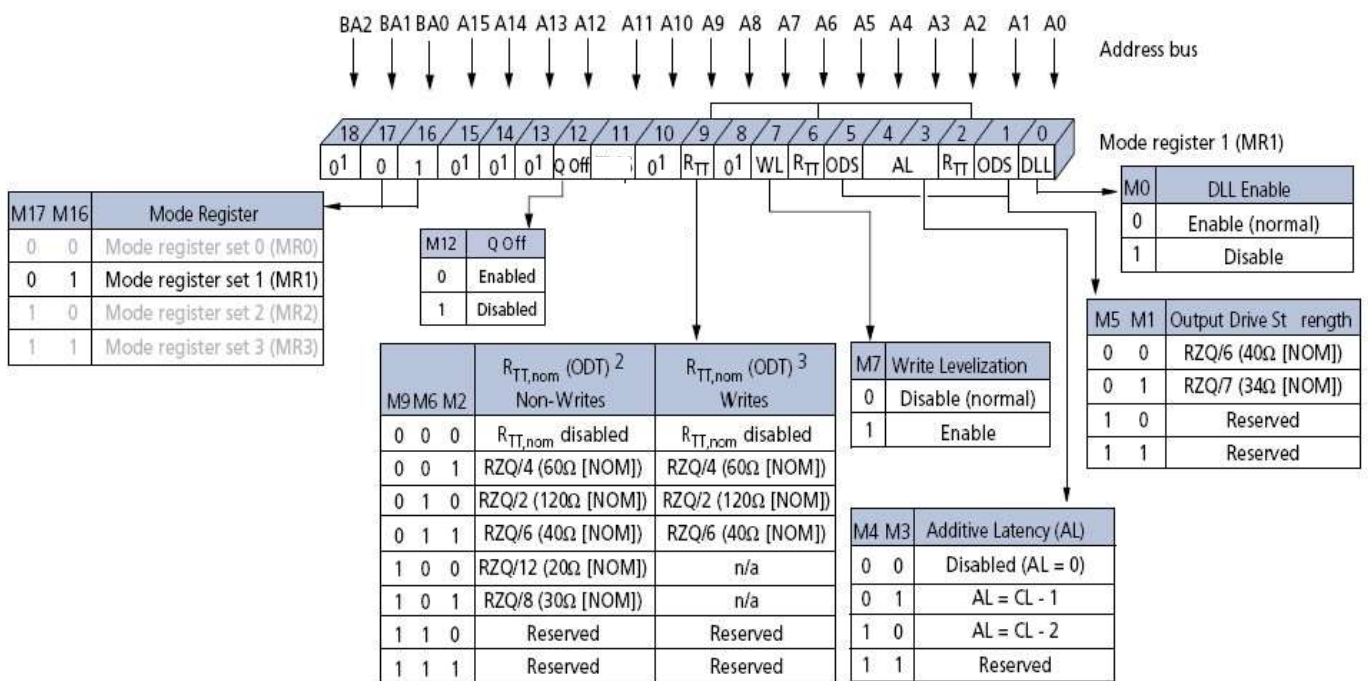
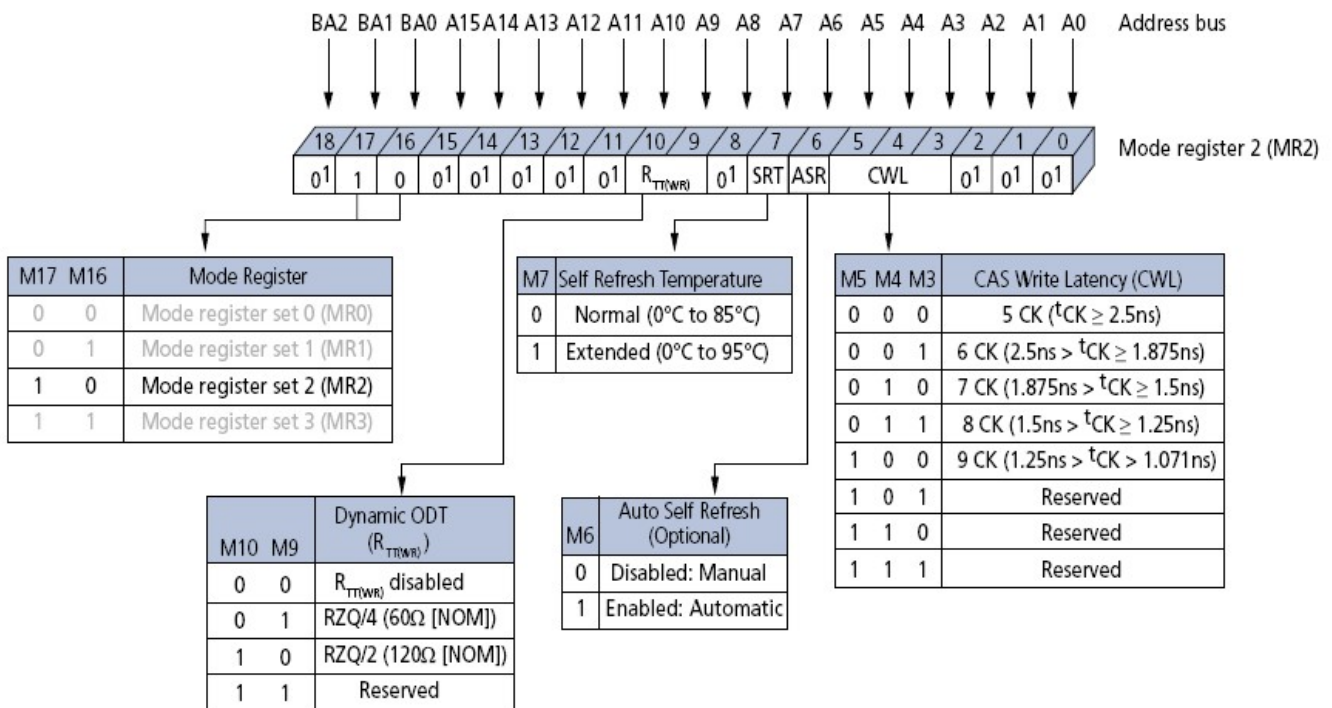

Figure 4-43: Mode Register 1 (MR1) Definition
Figure 4-45: Mode Register 2 (MR2) Definition
Figure 4-43. The MR1 register is programmed via the MRS command and retains the stored information until it is reprogrammed, RESET# goes LOW, or the device loses power. Reprogramming the MR1 register will not alter the contents of the memory array, provided it is reprogrammed correctly.
The DLL may be enabled or disabled by programming MR1[0] during the LOAD MODE command (see Figure 4-43). The DLL must be enabled for normal operation. DLL enable is required during power-up initialization and upon returning to normal operation, after having disabled the DLL for the purpose of debugging or evaluation. Enabling the DLL should always be followed by resetting the DLL using the appropriate LOAD MODE command.
The OUTPUT ENABLE/DISABLE function is defined by MR1[12] (see Figure 4-43). When enabled (MR1[12] = 0), all outputs (DQ, DQS, DQS#) function when in the normal mode of operation. When disabled (MR1[12] = 1), all DDR3(L) SDRAM outputs (DQ and DQS, DQS#) are High-Z. The output disable feature is intended to be used during IDD characterization of the READ current and during tDQSS margining (write leveling) only.
ODT resistance $R_{TT,nom}$ is defined by MR1[9, 6, 2] (see Figure 4-43). The R_{TT} termination value applies to the DQ, DM, DQS, DQS# balls. DDR3(L) supports multiple R_{TT} termination values based on RZQ/n where n can be 2, 4, 6, 8, or 12 and RZQ is 240Ω.
The WRITE LEVELING function is enabled by MR1[7] (see Figure 4-43). Write leveling is used (during initialization) to deskew the DQS strobe to clock offset as a result of fly-by topology designs. For better signal integrity, DDR3(L) SDRAM memory modules adopted fly-by topology for the commands, addresses, control signals, and clocks.
The mode register 2 (MR2) controls additional functions and features not available in the other mode registers. These additional functions are CAS WRITE latency (CWL), AUTO SELF REFRESH (ASR), SELF REFRESH TEMPERATURE (SRT), and DYNAMIC ODT ($R_{TT(WR)}$). These functions are controlled via the bits shown in Figure 4-45. MR2 is programmed via the MRS command and will retain the stored information until it is programmed again or the device loses power. Reprogramming the MR2 register will not alter the contents of the memory array, provided it is reprogrammed correctly. The MR2 register must be loaded when all banks are idle and no data bursts are in progress, and the controller must wait the specified time $tMRD$ and $tMOD$ before initiating a subsequent operation.
CWL is defined by MR2[5:3] and is the delay, in clock cycles, from the releasing of the internal write to the latching of the internal write to the latching of the first data in. CWL must be correctly set to the corresponding operating clock frequency (see Figure 4-45). The overall WRITE latency (WL) is equal to CWL + AL (Figure 4-43).